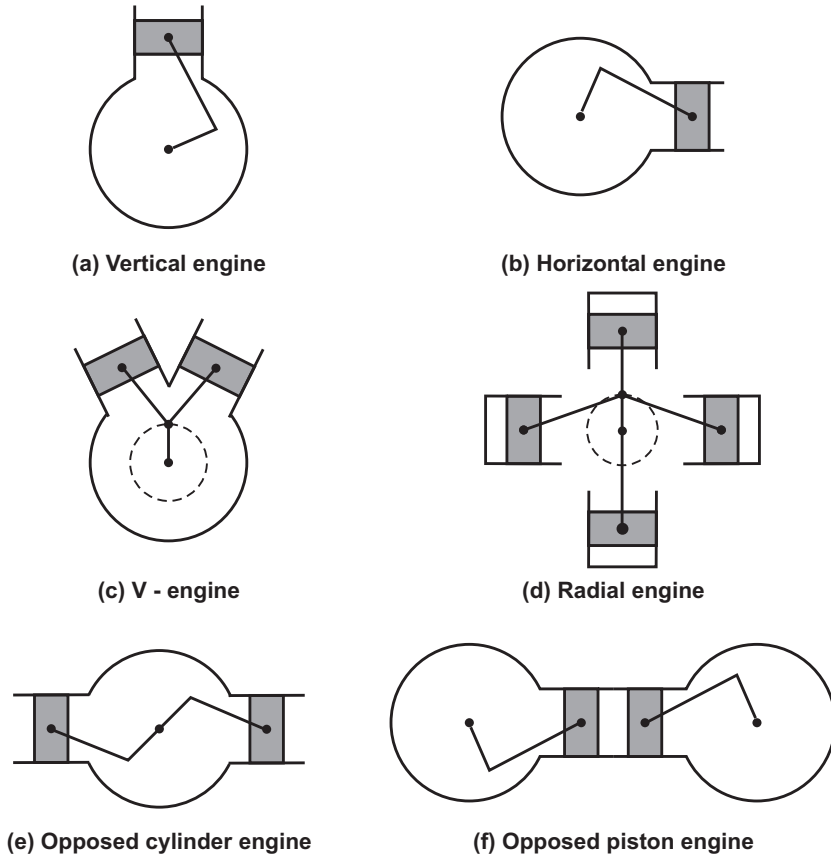

Fig. 4.1 : Arrangement of cylinder in I.C. engine
**10. According to the arrangement of cylinder (Refer Fig. 4.1)**